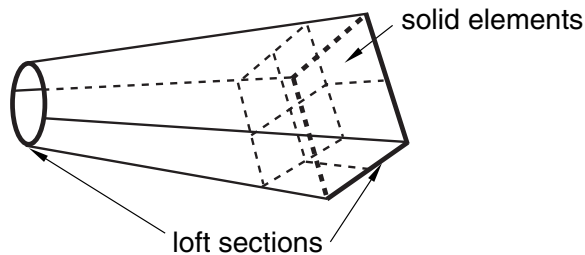
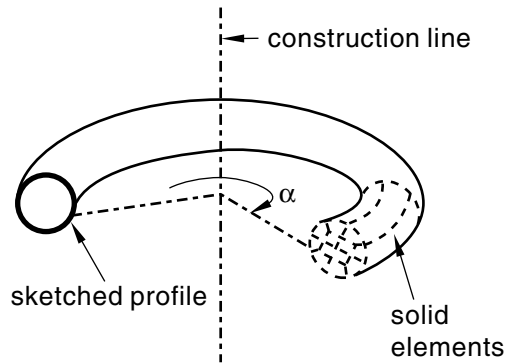
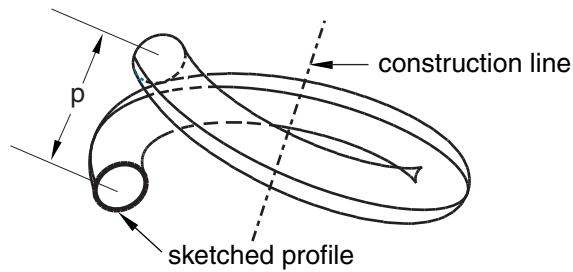
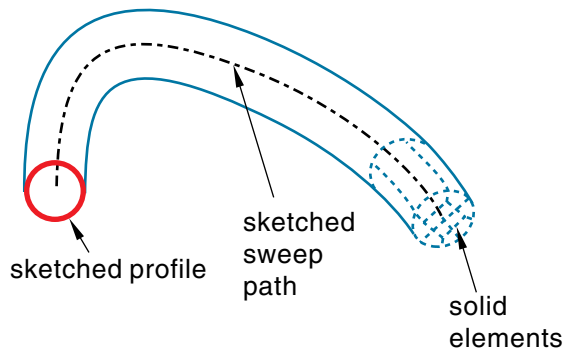

Figure 11-17 A solid loft feature.
Figure 11-18 A revolved solid feature.
Figure 11-19 A 360° revolved solid feature with pitch (p).
Figure 11-20 A swept solid feature.
only two loft sections, no tangency constraints, and a straight path) is shown in Figure 11-17. Select **Shape**→**Solid**→**Loft** from the main menu bar to create this type of feature.
- To create a revolved solid feature, you revolve the profile through a specified angle (α). A construction line serves as the axis of revolution, as shown in Figure 11-18. In addition, you can enter a pitch value (p) to translate the profile along the axis of revolution as it is revolved; Figure 11-19 shows a solid revolved 360° with pitch. Select **Shape**→**Solid**→**Revolve** from the main menu bar to create this type of feature.
- To create a swept solid feature, you sweep the profile along a specified path, as shown in Figure 11-20. Select **Shape**→**Solid**→**Sweep** from the main menu bar to create this type of feature. For more information, see “Defining the sweep path and the sweep profile,” Section 11.13.8.
Figure 11-15, Figure 11-17, Figure 11-18, and Figure 11-20 illustrate how each feature might later be meshed. You can mesh a solid feature using any of the three-dimensional, solid continuum elements available in Abaqus/Standard or Abaqus/Explicit.